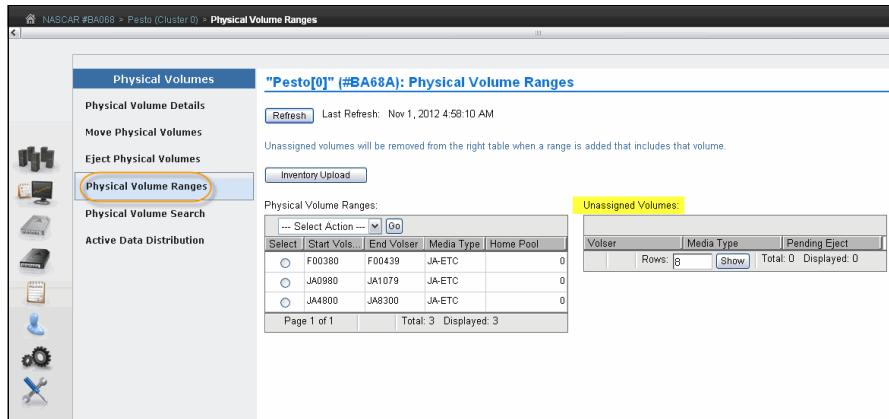

Figure 11-19 Physical Volume Ranges window
5. For a TS7700T cluster, click **Physical → Physical Volumes → Physical Volume Ranges** and then click **Inventory Upload**, as shown in Figure 11-19 on page 591.
8. For a TS7700T cluster, click **Physical → Physical Volumes → Physical Volume Ranges** and click **Inventory Upload**, as shown in Figure 11-19 on page 591.
Use the window that is shown in Figure 11-19 to add, modify, and delete physical volume ranges. Unassigned physical volumes are listed in this window. If a volume is listed as an unassigned volume, and this volume belongs to this TS7700, a new range should be added and include that volume to fix it. If an unassigned volume does not belong to this TS7700 cluster, it should be ejected and reassigned to the proper logical library in the physical tape library.